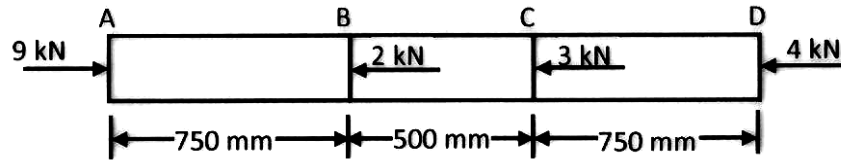

Fig. 1
- (c) Fig. 1 shows a steel bar of uniform cross section of 600 mm^2 carrying loads as shown. Determine total elongation of the bar. $E = 210 \text{ GPa}$. [8]